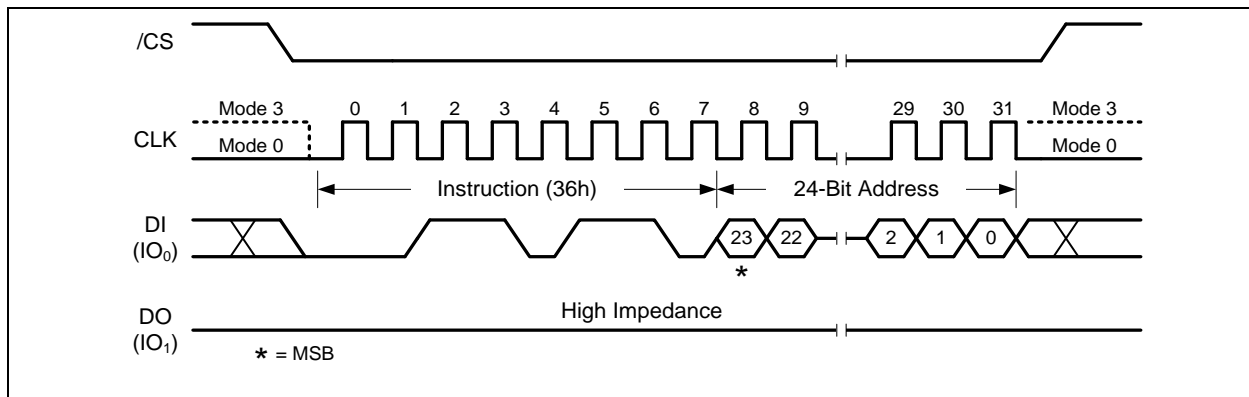

Figure 52. Individual Block/Sector Lock Instruction
To lock a specific block or sector as illustrated in Figure 52, an Individual Block/Sector Lock instruction must be issued by driving /CS low, shifting the instruction code “36h” into the Data Input (DI) pin on the rising edge of CLK, followed by a 24/32-bit address and then driving /CS high.